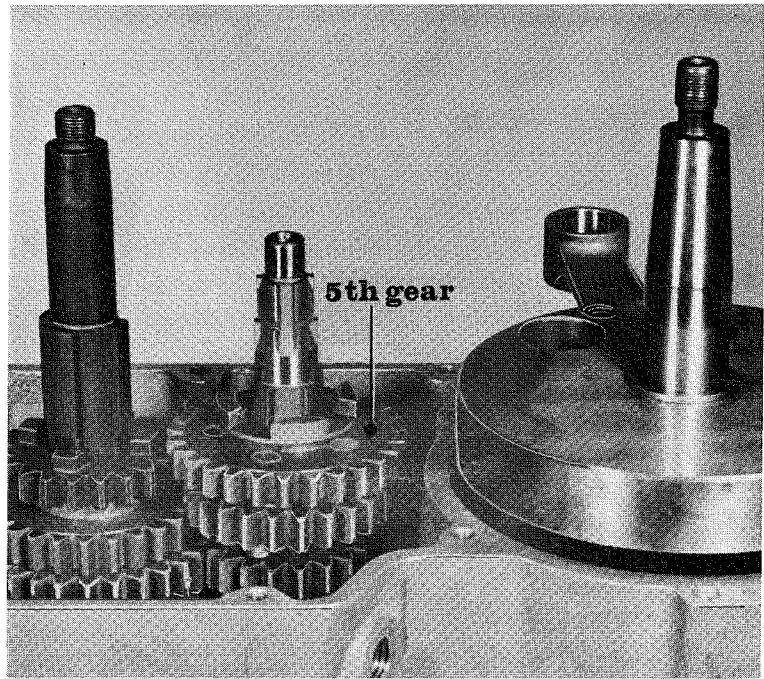

Fig. 8
8. Fit the 5th gear pinion on the clutchshaft. See Fig. 8.